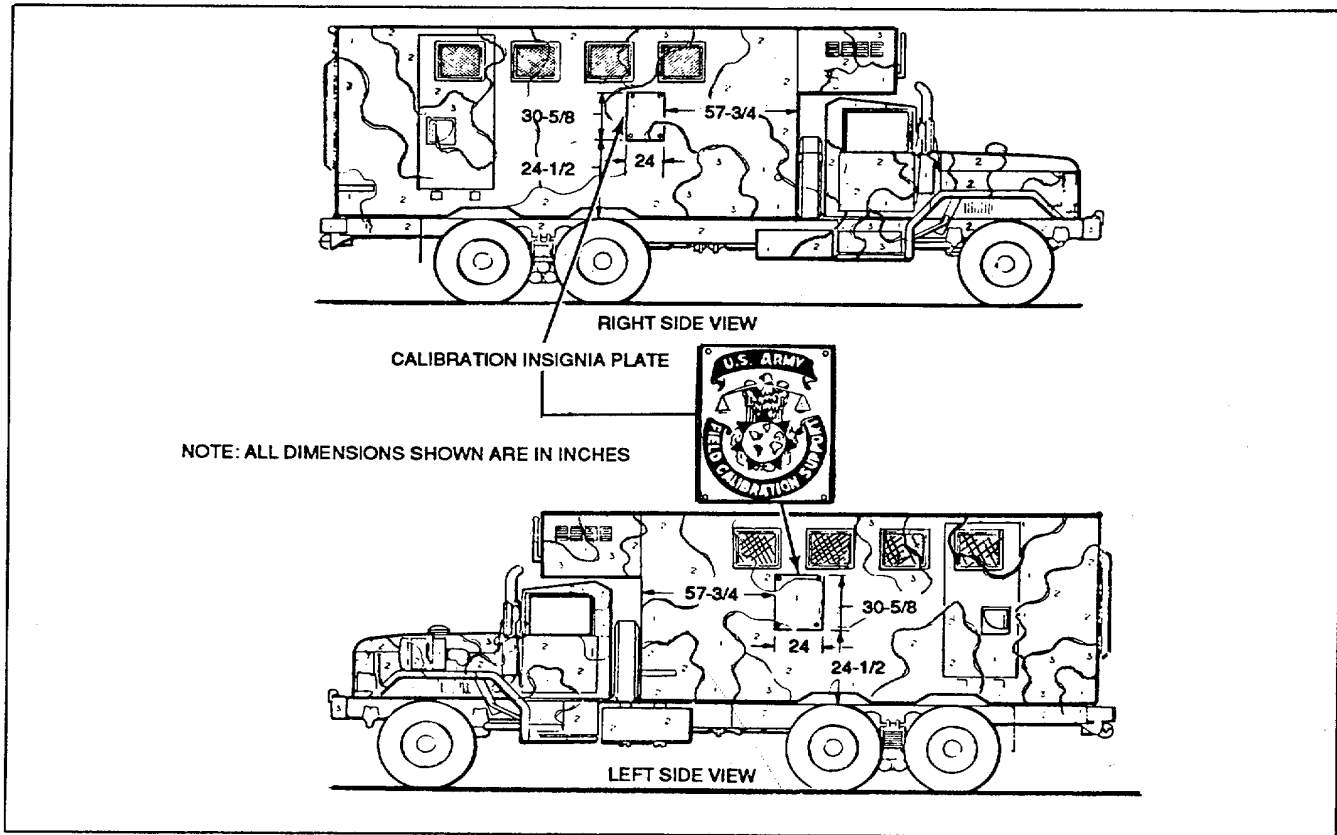

Figure 21. M929, M920, M921, and M934 Expandable Van (Calibration).
g. All calibration vehicles will be marked with a calibration insignia plate as provided in kit ORD 7911573. These plates will be applied on each side of the M820, M934 and M935 Expansible Vans, between the second and sixth rails, Figure 21. On other types of calibration vehicles (such as vans and panel trucks), the plates will be applied to the most appropriate surface, depending on surface size and window location.
(1) Such markings will be applied in letters and numerals normally one inch in height, but not less than 1/2 inch.
(2) Color of the markings will be lusterless green 383 or black, whichever affords the greater contrast with the surface color. If practicable, the color chosen will be the same as the registration marking.
(3) Temporary instructions will be applied with removable vinyl markings or gasoline soluble paint.